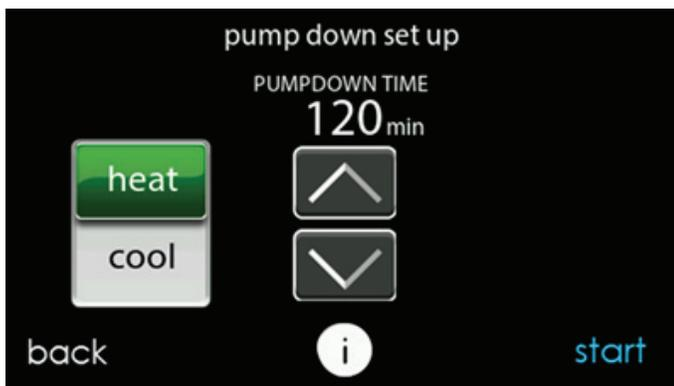

Fig. 22 – Pump Down Setup Screen
3. Select mode to pump down in (COOL or HEAT), COOL mode allows refrigerant to be isolated in outdoor unit. HEAT mode allows the refrigerant to be isolated in indoor coil and lineset. Set desired time period. Default time period for the procedure is 120 minutes. See Fig. 22.